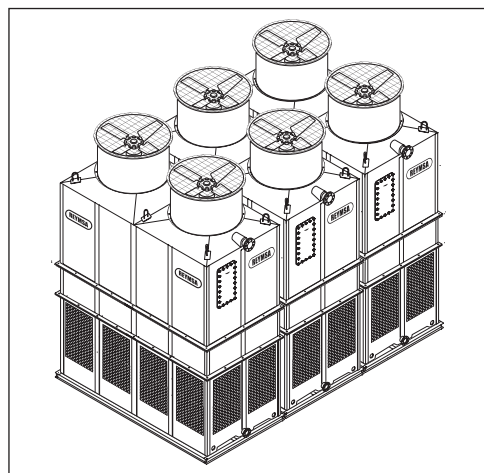

Figure A-66: Modular Tower installed by large side arrangement (-L)
- F. Follow the same instructions to place the remaining fan ducts (see figure A-66).